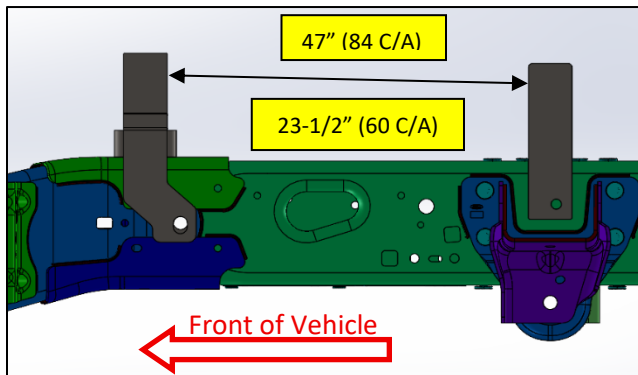

Figure 3
2. Place one (1) 7/8" x 2-1/2" bolt through the hole in passenger side front level lok (**Item 2**). Thread one (1) reinforcing plate (**Item 3**) onto bolt. Place the broke tabs of the level lok on top of the fish plate and reinforcing plate between the fish plates. Thread the bolt through the existing frame hole in between the fish plates. Fasten level lok and hose bracket with one (1) 7/8" nyloc nut and 7/8" washer (**Item 9**).
3. Locate the driver and passenger level lok mounting straps (**Item 5**) approximately 47" rearward of the level lok installed in steps 1 & 2 if on a 84" cab to axle. If on a 60" cab to axle drill the whole 23-1/2" back from front level lok. They will be installed between the front leaf spring mounts. Mark and drill a 5/8" hole and install the straps in a vertical position with one (1) 5/8" x 2" bolt, one (1) reinforcing plate (**Item 8**) and one (1) 5/8" nyloc nut. Figure 3 & 4